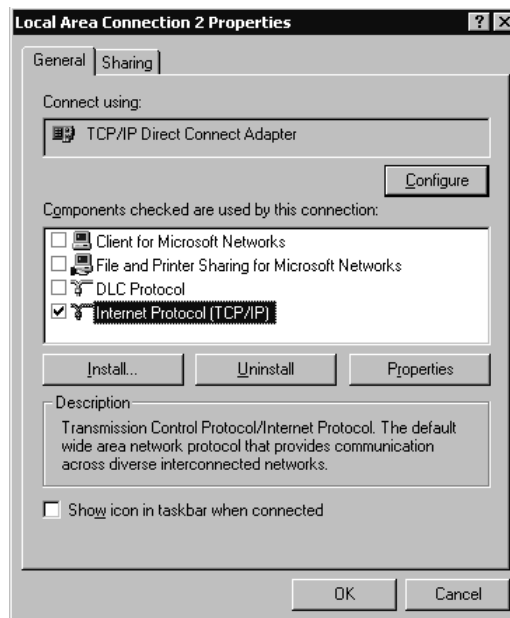

Figure 6-8. Adapter Properties for TCP/IP direct Connect
6. Uncheck **Client for Microsoft Networks**, **File and Printer Sharing for Microsoft Networks**, and **DLC Protocol** since these services are not supported on the mainframe (Figure 6-8). Highlight **Internet Protocol (TCP/IP)** and click on **Properties**.